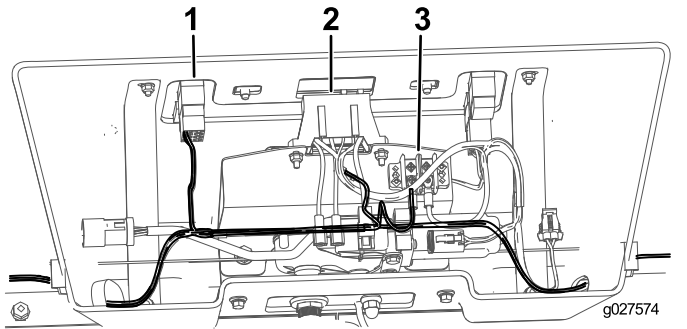

Figure 12
3. Connect the wire harness to the switch, fuse block, and ground terminal (Figure 12).